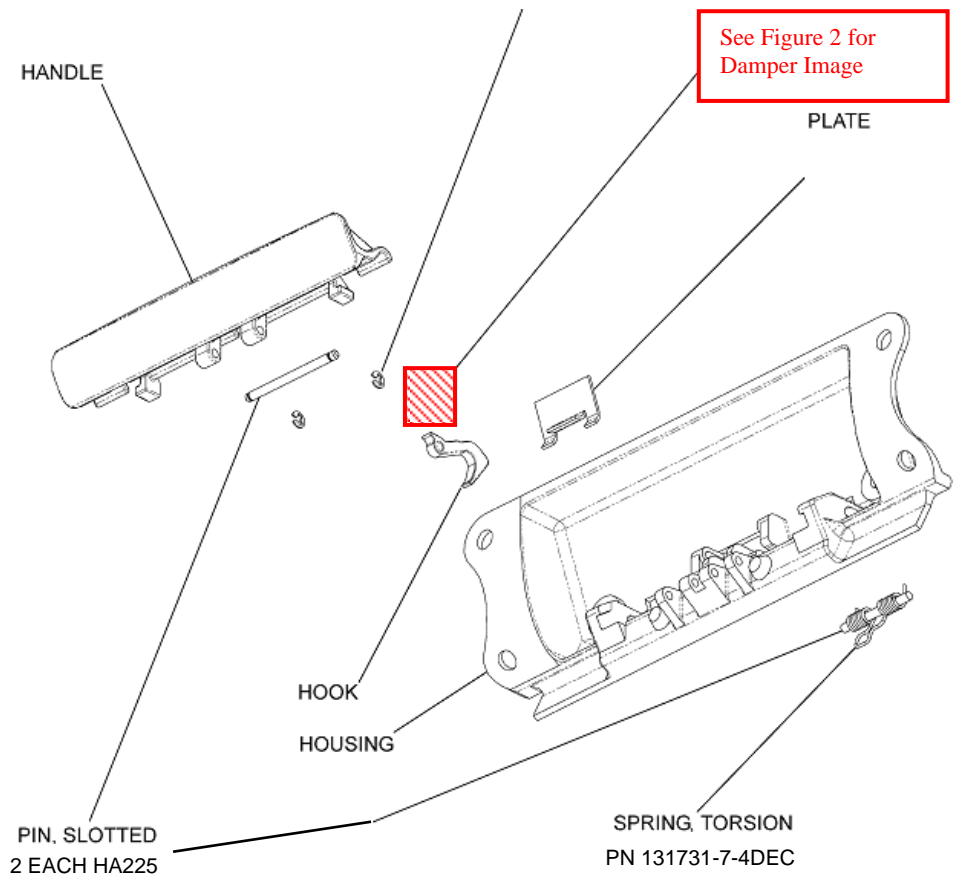
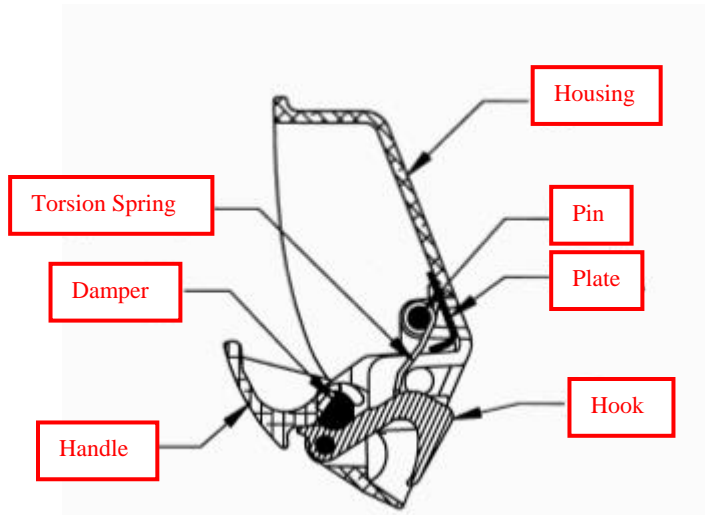

FIGURE 1: Spring Replacement
FIGURE 2: HA225-7DEC with Damper
Hartwell Service Instruction SI 11-10-01 provides instructions for replacing both the Torsion and Compression Springs. Shown below in Figure 1 is an exploded view of an HA225 series Latch, configured with the Damper installed in place of the Compression Spring. Figure 2 shows the correct location and orientation of the Damper, P/N 131731-7-13DEC, for the HA225 series latches.
6. Put the new Damper, P/N 131731-7-13DEC into the handle. See Figure 2 for the correct orientation.